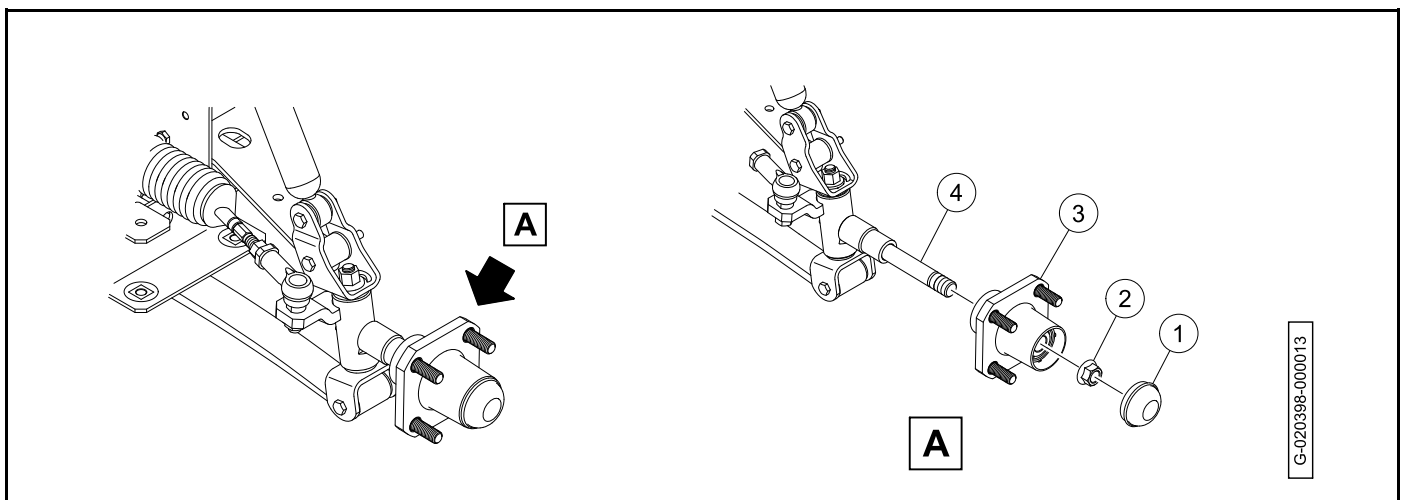

Figure 7-48 Non-Lifted Suspension Shown. Lifted Suspension Is Typical.
4. Remove the dust cap (1) (**Figure 7-48**).